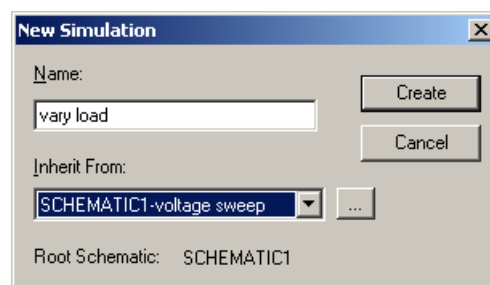
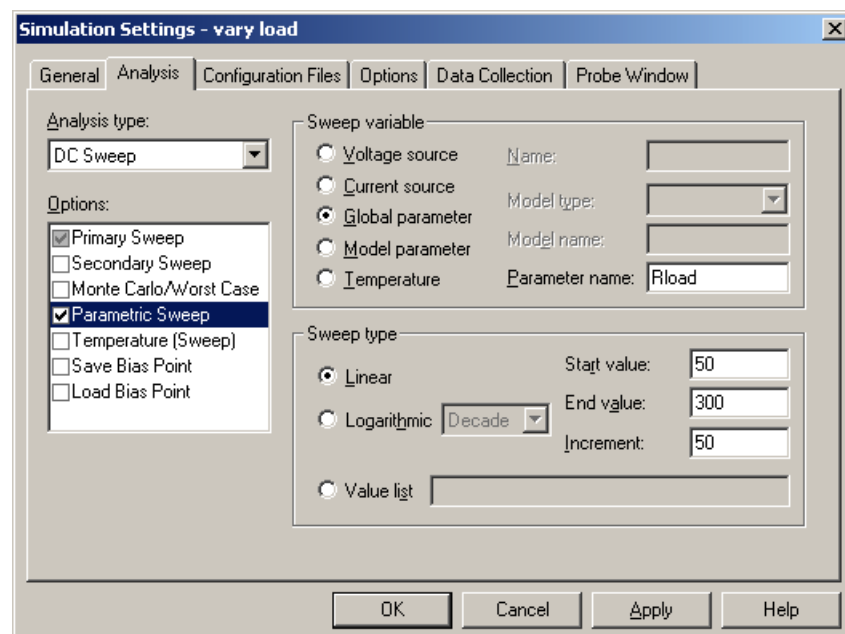
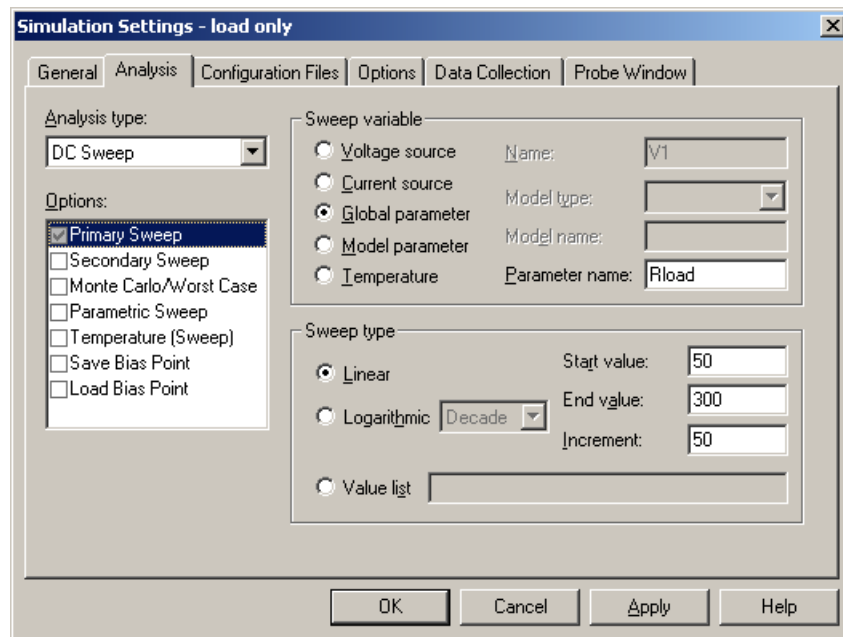
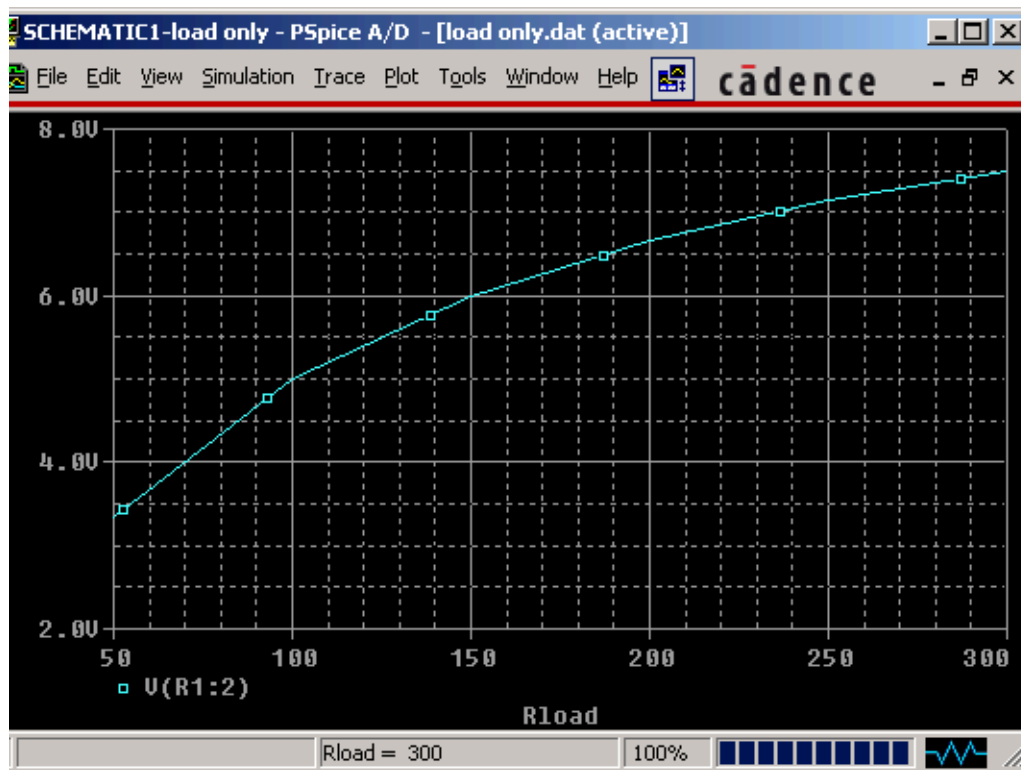

Figure 21. Dialogue box to create a new simulation profile, vary load, based on the previous profile voltage sweep.
Figure 22. Simulation settings for adding a parametric sweep to the previous DC sweep.
Figure 24. Simulation settings for a parametric sweep alone. The Analysis type is DC sweep.
Figure 25. Plot of voltage as a function of Rload.
- Create a new simulation profile. This time it is a good idea to base it on the previous profile, because we just want to add the parametric sweep to it, so select voltage sweep in the Inherit From list as in figure 21 on page 17. Click OK, which brings up the usual Simulation Settings box shown in figure 22 on page 17.
In the previous simulation we performed a DC sweep for each value of the parameter. In fact the DC sweep is pointless because it just gives a straight line. We could instead plot the voltage as a function of Rload, keeping V1 constant at its original value of 10 V. In other words, we vary the parameter alone. This isn't done very often but is appropriate here. Figure 24 on the following page shows a suitable simulation profile. It is set up as a DC sweep although we do not sweep either a current or voltage. It looks rather like figure 22 on the page before except
Figure 25 on the following page shows how the voltage depends on Rload. The curve would be smoother if more points were requested by reducing the increment in figure 24.